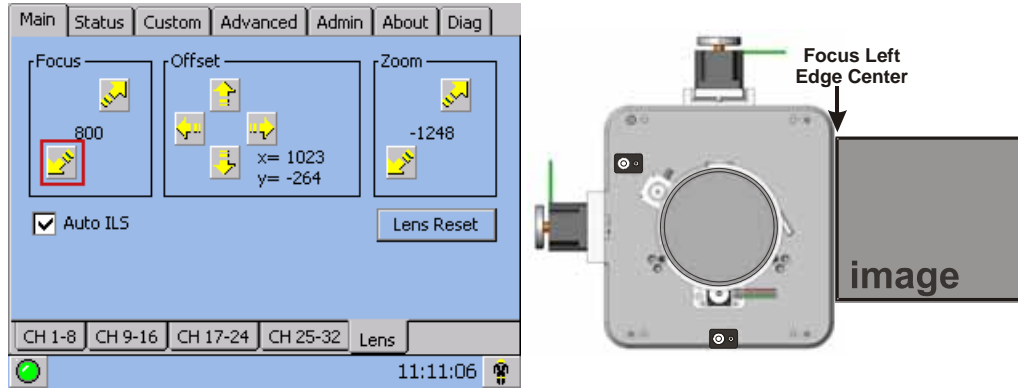

Figure 3-40 Adjust Focus
3. Adjust the **Focus** to retract the lens using the down arrow on the **Main: Lens** menu. See **Figure 3-40**. Watch the image at the left edge of the screen until it comes into focus. If the image appears well-focused on the left edge but not on the right, determine if the right side focuses in front of or behind the screen. If the entire screen come into focus, skip to step 7.